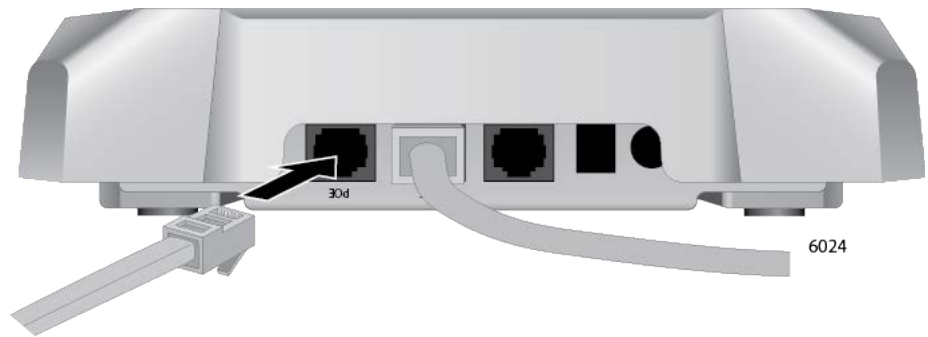

Figure 24. Connecting the Ethernet Cable to the LAN2 Port
3. To use LAN2 port in the static LAG or Cascade mode, connect a second Ethernet cable to the port. See Figure 24.